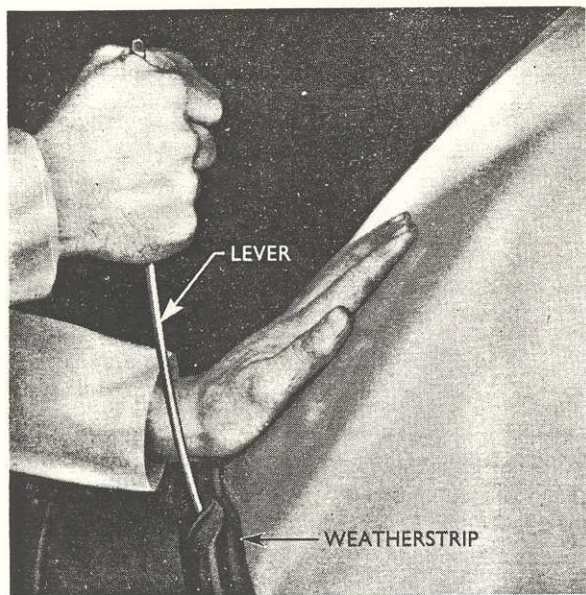

Fig. 7
9. If difficulty is experienced in entering the assembly fully into the aperture, this can be overcome by using a thin flat lever (see Fig. 7). Insert the lever between the weatherstrip and over the bottom aperture flange and by carefully levering upwards and forwards, the assembly will move into the desired position.
9. If difficulty is experienced in entering the assembly fully into the aperture, this can be overcome by using a thin flat lever (see Fig. 7). Insert the